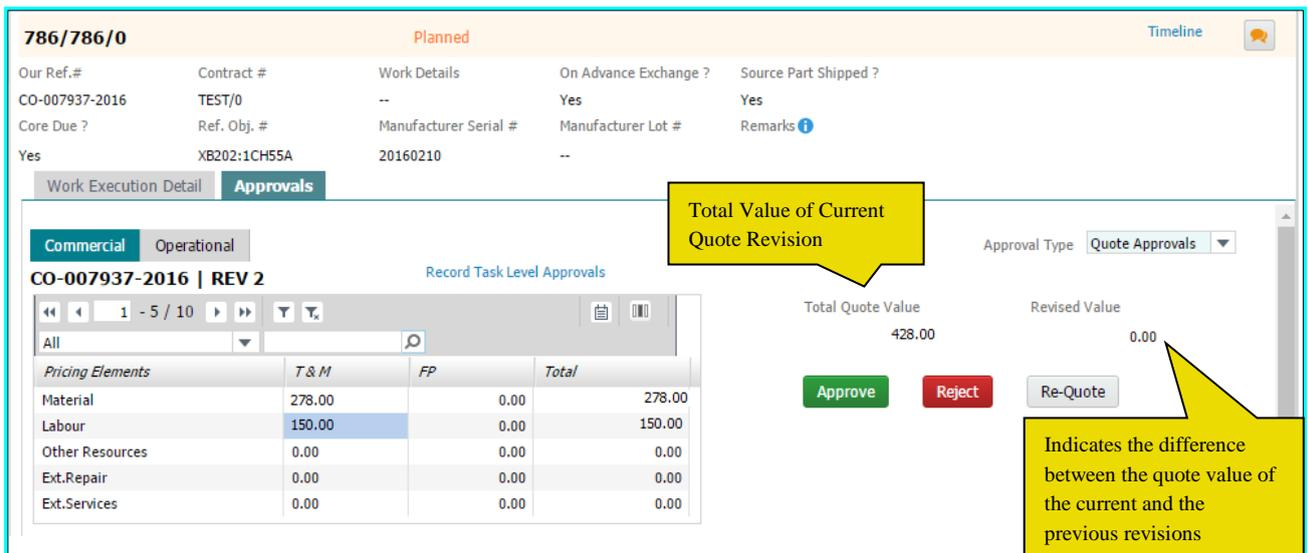

Figure 2.7 Approvals tab – Operational Approval
1. Select the **Commercial** tab in the **Approvals** section of the **Customer Portal** business component. The Commercial tab page appears. *See Figure 2.7.*